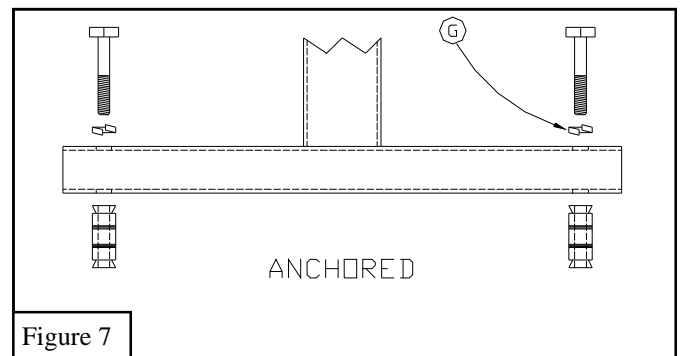

Figure 7
6. If you want the bench to be fixed anchor each *Leg Assembly* (B) in 2 places using the appropriate anchors (not included) for the mounting surface. See Figure 7.
4. If you want the bench to be fixed anchor each *Leg Assembly (B)* in 2 places using the appropriate anchors (not included) for the mounting surface. See Figure 7.